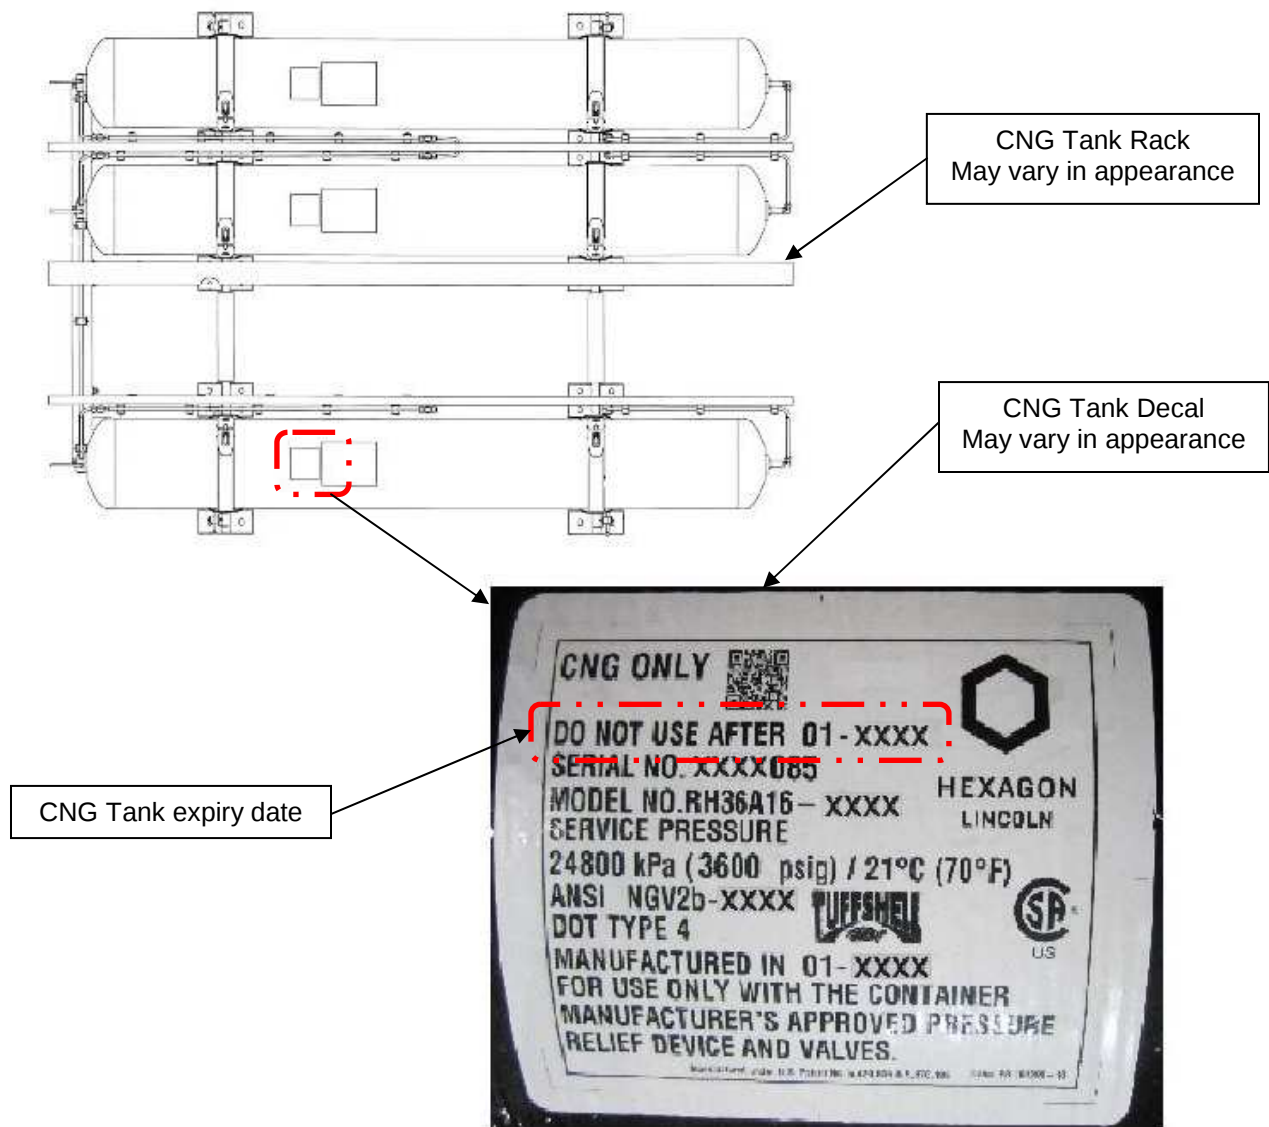
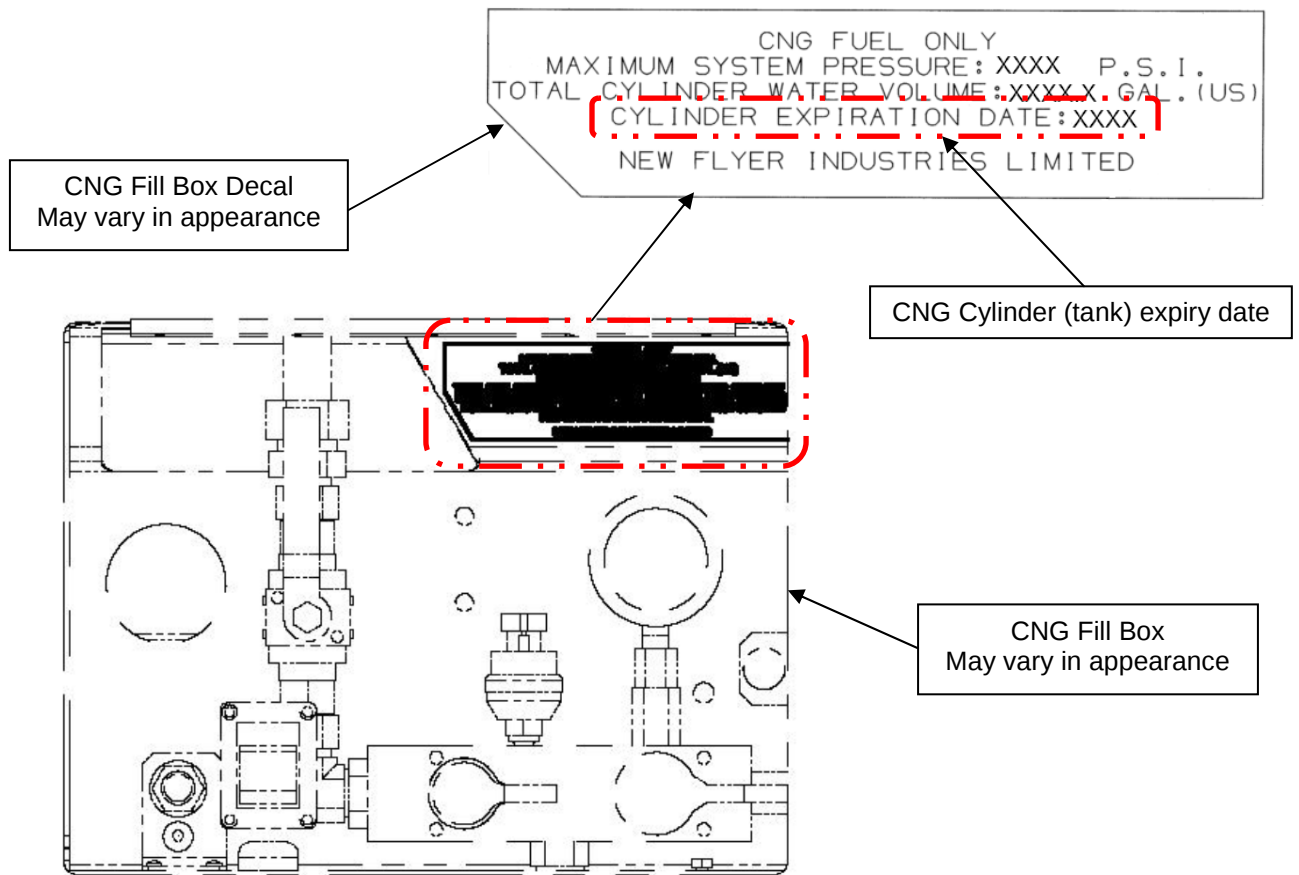

Figure 1: CNG Tank Decal Expiration Date Location
Figure 2: CNG Fill Box Decal Expiration Date Location
2. Using approved fall safety protection equipment, locate and examine the CNG tank decals on the roof. Located as shown in Figure 1.
4. Record and compare the expiry date from the tank decal to the existing fill box decal, shown in Figure 2.
5. Open the CNG fill door at the curbside rear of the coach and locate the existing CNG Fuel Decal on the upper right face of the fill box as shown in Figure 2.
6. The “**DO NOT USE AFTER**” date on the CNG cylinder decal (See Figure 1) should be the same year as the “**CYLINDER EXPIRATION**” date on the Fill box decal (See Figure 2).